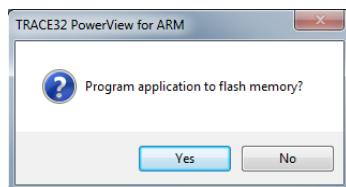

Figure 5.45: Flash application dialog
6. A dialog asks whether you want to flash the application or not (Figure 5.45 on the facing page). If you click **Yes**, the flashing process starts.